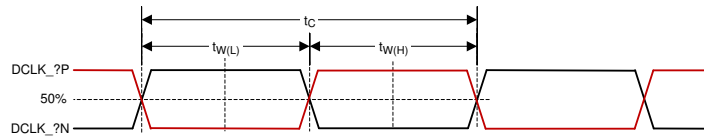

图 6-12. HSSI CLK Characteristics
- (6) See 图 6-12 for rise time and fall time for HSSI.
- (7) See 图 6-12 for pulse duration high and low for HSSI.